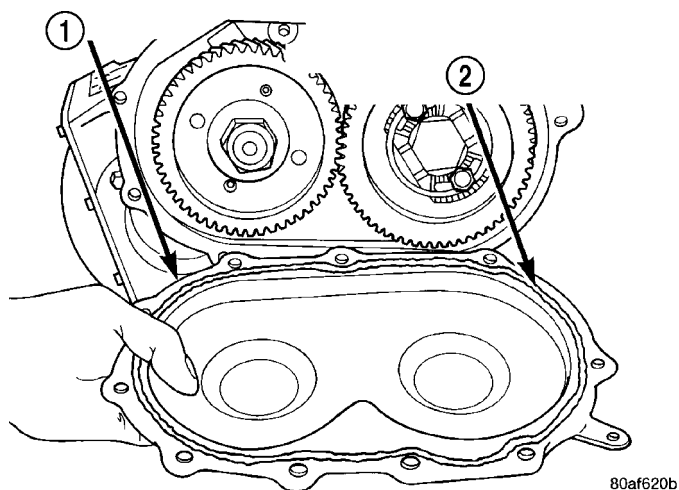

Fig. 121 Install Rear Cover
(35) Measure transfer shaft end play. **Transfer shaft end play should be within 0.05-0.10 mm (0.002-0.004 in.).** If the end play is too high, install a 0.04 mm (0.0016 in.) thicker shim. If the end play is too low, install a 0.04 mm (0.0016 in.) thinner shim. Repeat until 0.05-0.10 mm (0.002-0.004 in.) end play is obtained.
(36) Install a bead of Mopar® ATF RTV (MS-GF41) to transfer gear cover (Fig. 121).